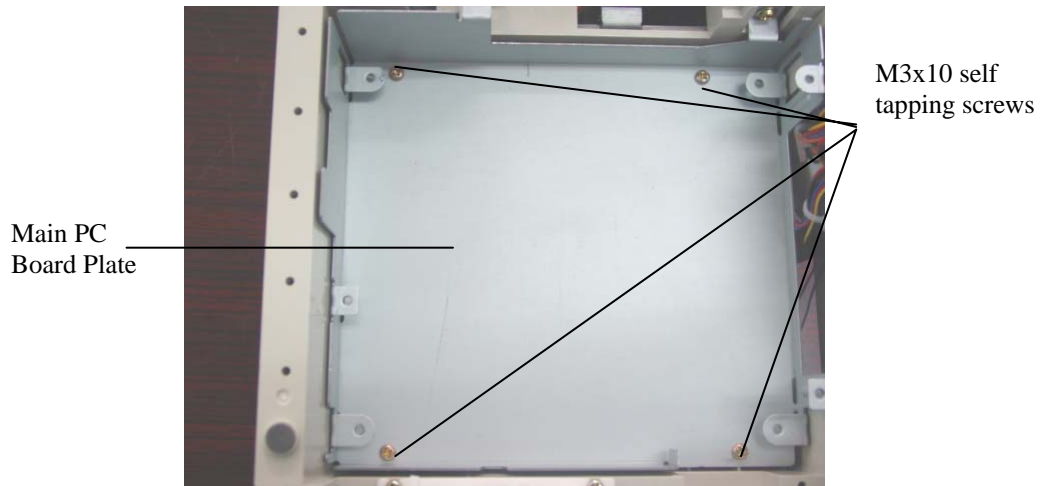

Figure 7 – Removal of Main PC Board Plate
9. Unscrew four M3x10 self-tapping screws and remove the Main PC Board Plate. (Figure 7)